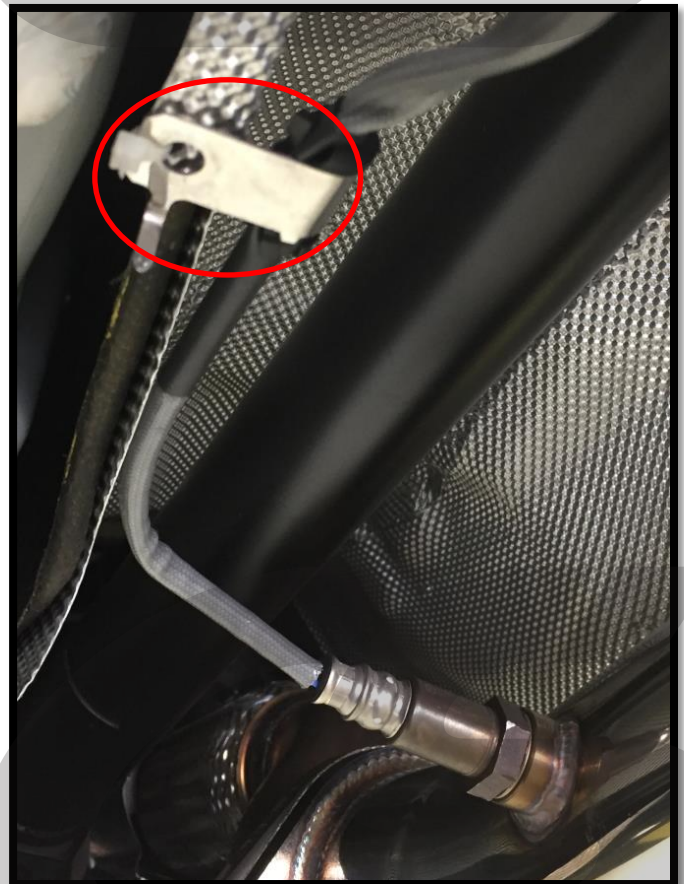

Figure 7b
- b) Drill or punch a 1/8" hole in the corner of the OEM heat shield. This hole serves as an anchor point for the bracket on the O2 sensor wiring. (See **Figure 7b** for location after bracket is attached)
- c) Attach OEM O2 Sensor Wiring bracket to heat shield using supplied zip tie. **Figure 7b** shows the bracket attached to the heat shield. This step prevents the O2 sensor from hanging down and potentially dragging or catching something.